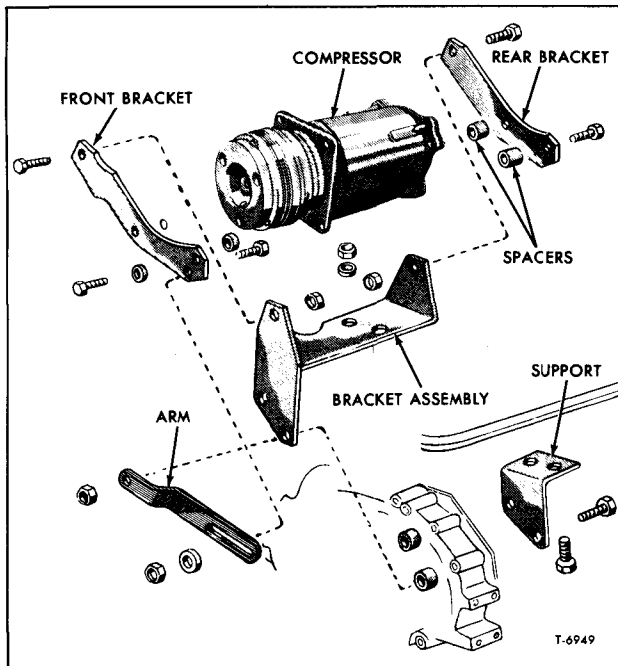

Figure 26—Compressor Mounting (6-71 Alum. Tilt Cab Model)
10. Remove nuts and bolts attaching compressor to mounting brackets. Remove compressor from vehicle (figs. 26 through 29).
2. Install new compressor to engine (figs. 26 through 29), leaving compressor fittings opening cover plate on the compressor.